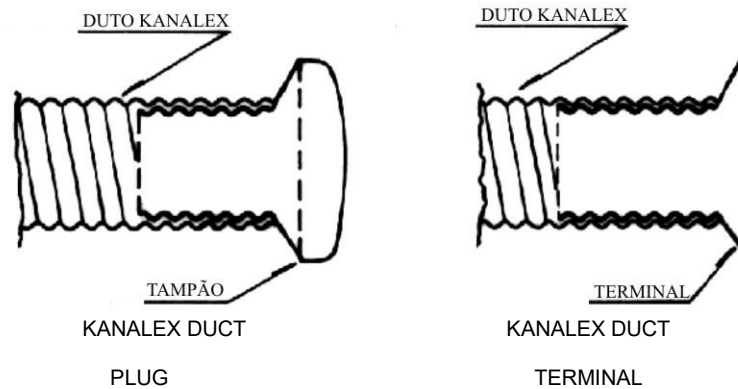

Figure 43
- a) Remove the KANALEX duct plug, transforming it into a terminal (Figure 43).